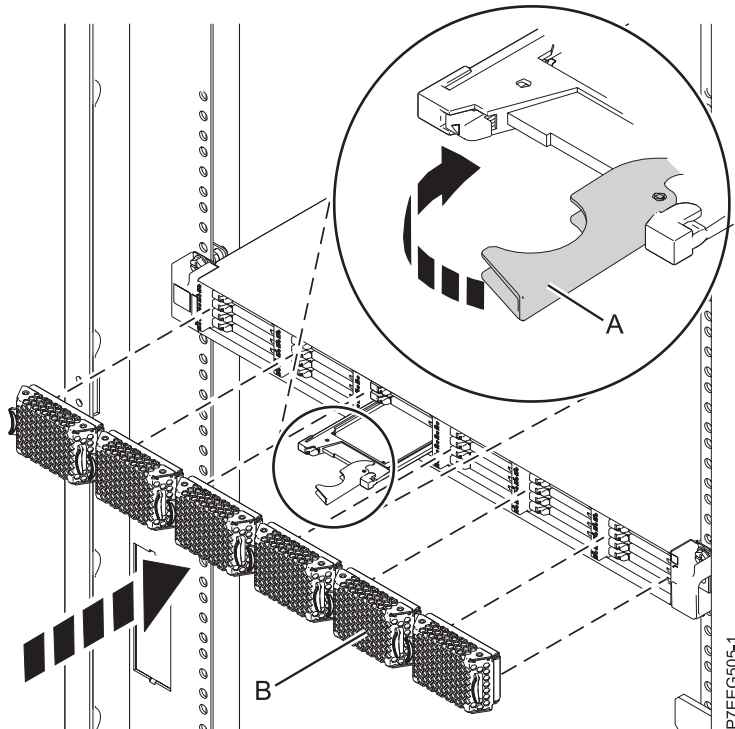

Figure 32. Replacing a solid-state drive in the 58/88 PCIe storage enclosure.
4. When the solid-state drive identify LED flashes, slide the solid-state drive all the way into the 58/88 PCIe storage enclosure until it is fully seated. Then rotate the handle (A) to the locked position. See Figure 32 on page 52.
5. Install the bezel (B).